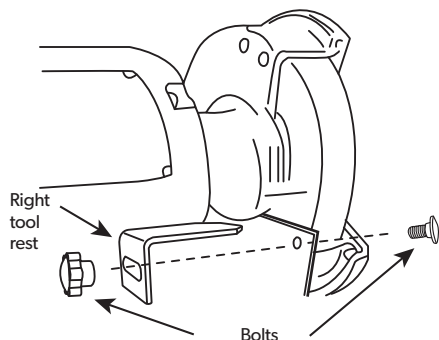

Figure 1
- A. Install adjustable rests to the wheel guards as shown in Figure 1. Use bolts and washers to secure them in place as shown in Figure 1.
Note: There is a left and a right tool rest. Refer to Figure 1 to be certain that you install them correctly.